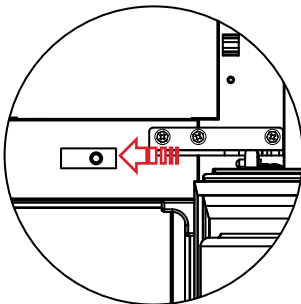

Fig 8-25
3. While applying pressure on the door switch, push it towards the center of the unit or left as indicated. (Fig 8-25)